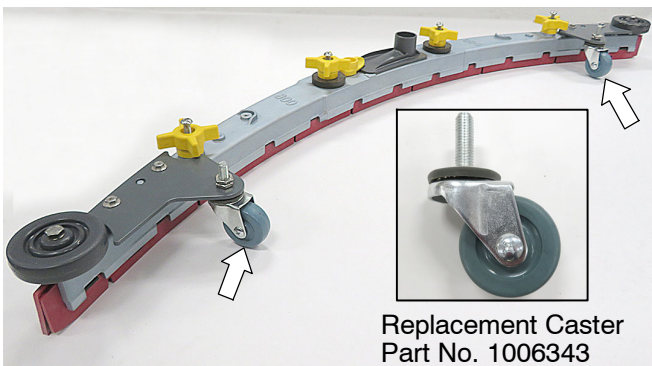

FIG. 149
- Replace the squeegee casters every 5th replacement blade set or 500 hours or 12 months of machine use, whichever comes first. Uneven floor types may require more frequent replacements (Figure 149).